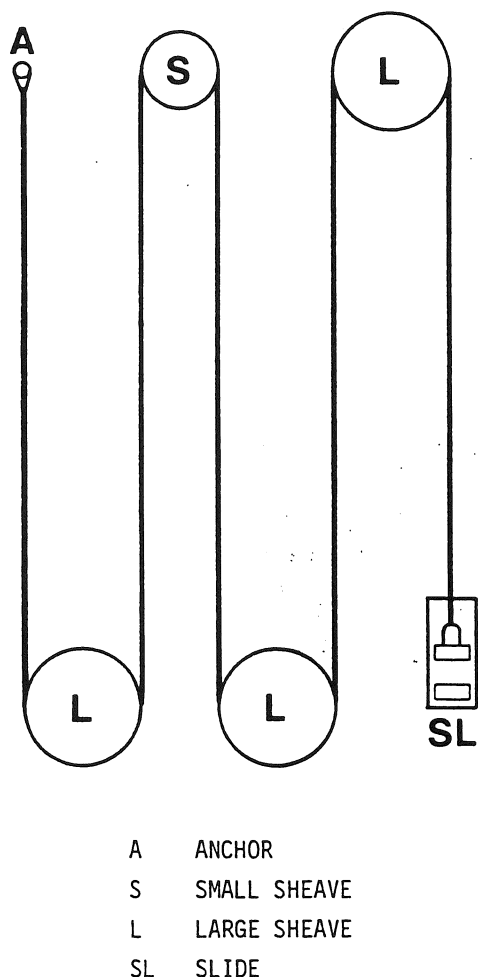

Figure 19
- g. Thread the cable around the sheaves as shown in Fig. 19. Install a thimble at the other end of the cable, and install on the slide U-bolt. Install two cable clamps (nuts on the opposite side to the cable dead end), and torque-tighten the nuts to 65 ft/lb (8,9 kg/m).